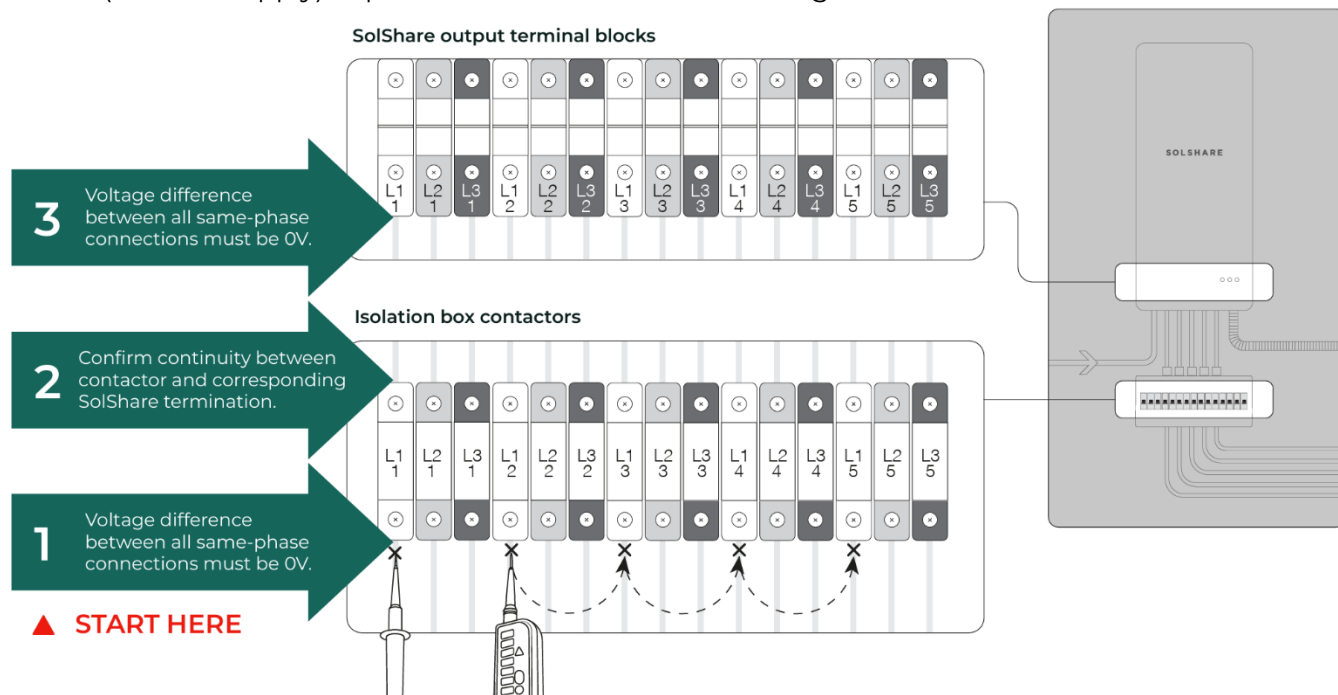

Figure 7: Phase-to-phase checks
2. Carry out a phase-to-phase and phase-to-neutral check (as shown in Figure 7) on all connections to ensure the wiring has been completed in the right sequence. Turn off the SolShare Isolation Switches (in the Isolation Box) and energise the Tenancy Main Switches (Inverter Supply) to perform these tests. This will energise the contactors but not SolShare.